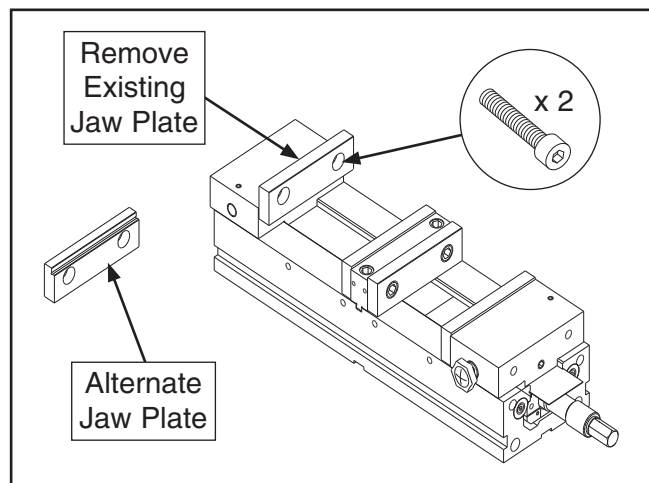

Figure 8. Removing and replacing jaw plates.
1. Remove (2) cap screws holding jaw plate to jaw (see **Figure 8**).
2. Replace original jaw plate with alternate plate (sold separately) and tighten into place (see **Figure 8**).